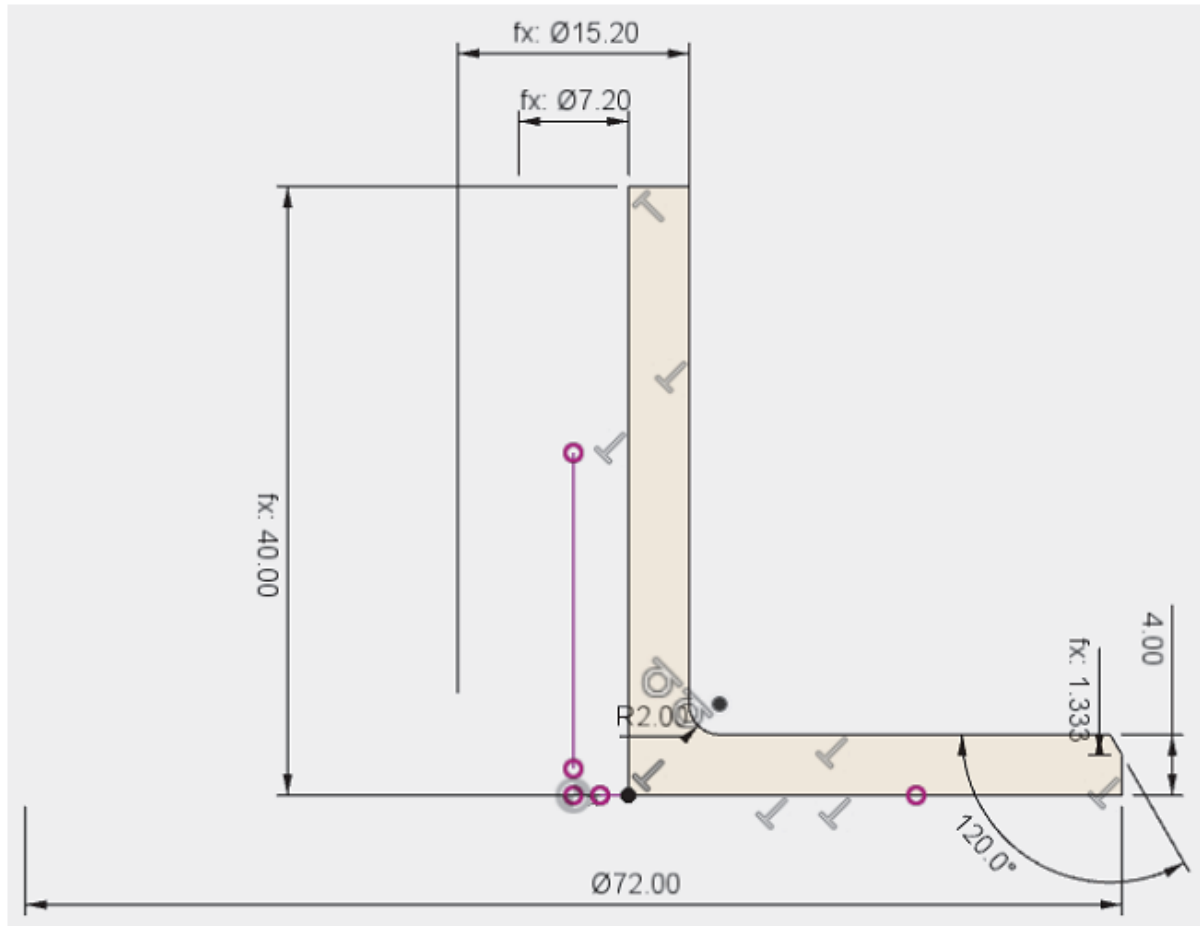

Figure 8–10
9. Modify the base thickness from 3 to 4. The sketch should display as shown in Figure 8–10.